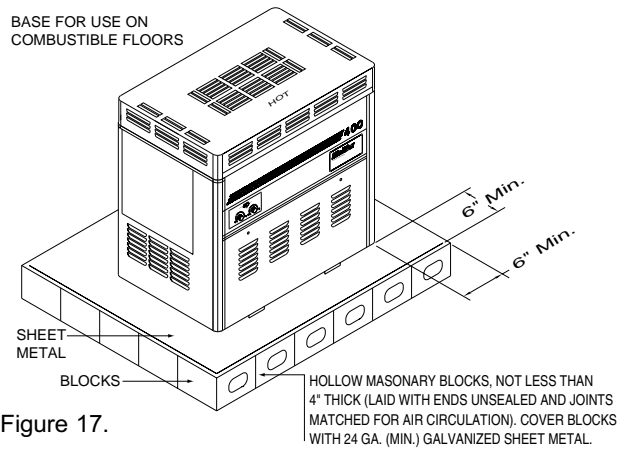

Figure 17.
- b) Construct a non-combustible base from masonry blocks as illustrated, see Figure 17.